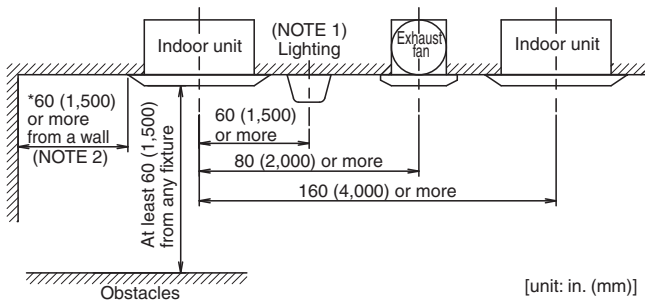

Fig. 2
- Any vents, light fixtures, or other appliances which may disturb the airflow might stain the ceiling if too close, so follow Fig. 2 when installing.